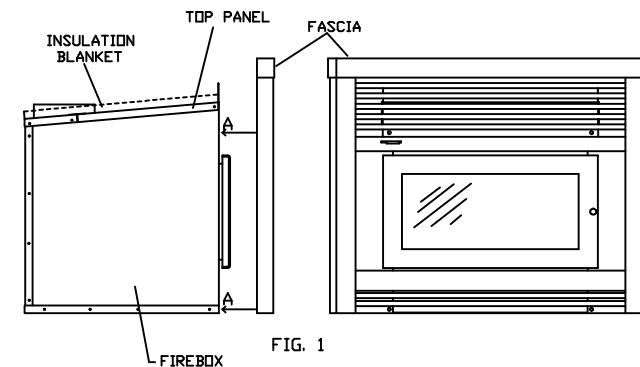

FIG. 1
4. Using the 4x 8g x 25mm screws provided, screw the fascia to the firebox through the speed clips (position A on fig. 1).
The top panel has to be installed in place to ensure the fire performs as designed too. To install top panel, first remove it from sitting on top of the firebox. Then place it on top of the two outer cabinet edges and slide into place as per fig. 1.